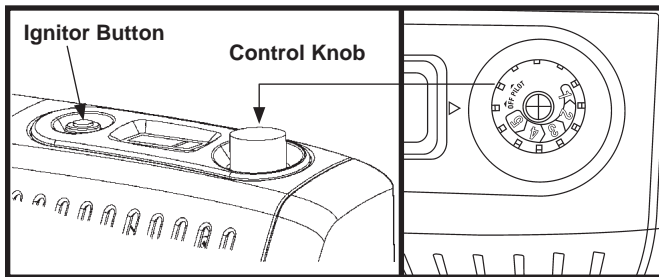

Figure 16.
3. Push in gas control knob and slightly turn clockwise to the OFF position (see figure 16).
4. Wait five (5) minutes. Then smell for gas including near the floor. If you smell gas, STOP! Follow "B" in the safety information above. If you do not smell gas, go to the next step.
5. Push in and turn control knob counterclockwise to PILOT. Press in control knob for five (5) seconds.